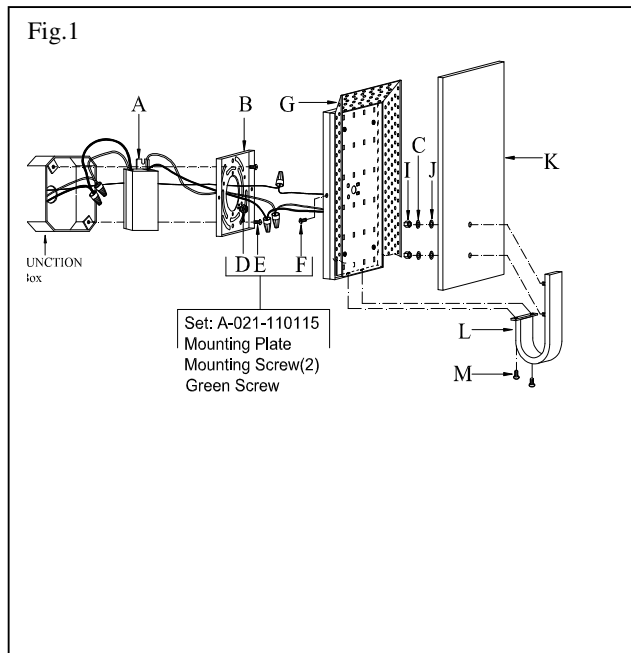

Fig.2
CONNECTING THE WIRES (FIG. 2)
7. Connect the red output wire from driver to the red input wire from the led module. Connect the black output wire from driver to the black input wire from led module see Fig. 2, making sure that all wire connectors are secured. If your junction box has a ground wire (green or bare copper), connect the fixtures ground wire to it. Otherwise, connect the fixture ground wire directly to the mounting plate (B) using the green screw (D) provided. Tuck the wire connections neatly into the junction box.
8. Align fixture (G) over mounting plate (B) and tighten mounting and secure with screws (F).Then remove the plastic film on the steel mesh.